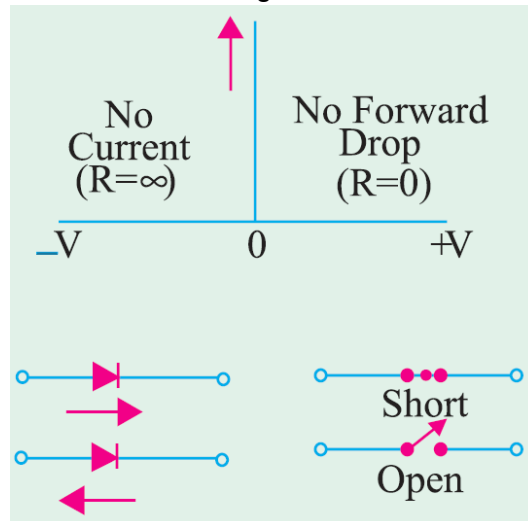

Figure 4. Characteristics and Equivalent of ideal diode
- Such a device acts as a short-circuit in the forward direction and as an open-circuit in the reverse direction as shown in Figure 4